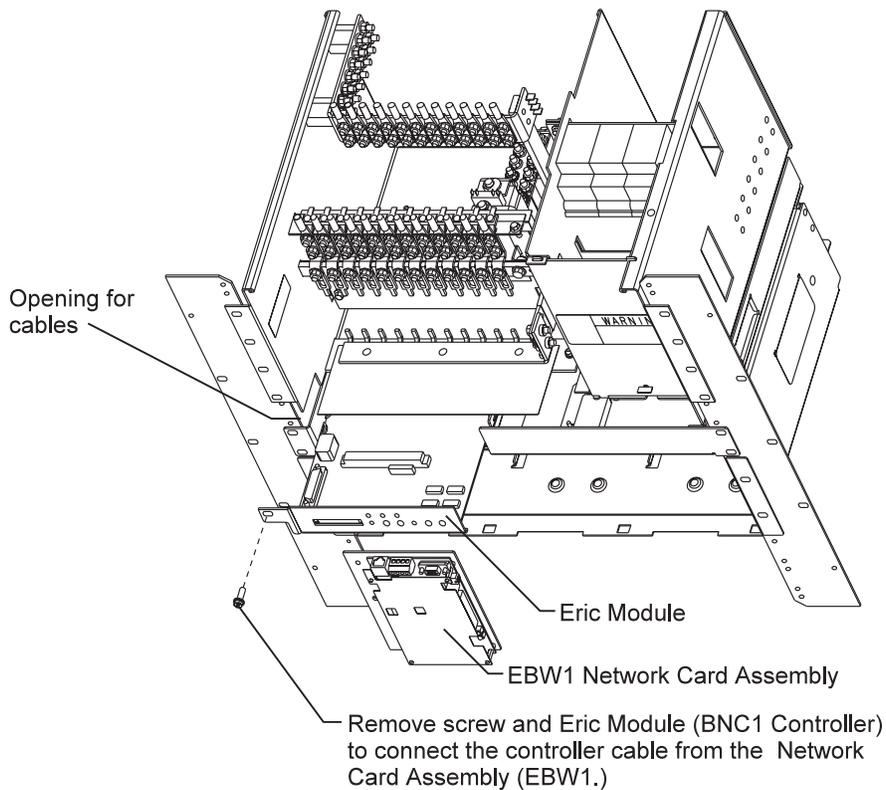

Figure 7-3: Removing the ERIC module
4. Refer to Figure 7-3. Locate a rectangular cutout (opening for cables) on the side of the frame just above the ERIC module. Cover the lower and rear (vertical) edges of this opening with the grommet material furnished in the kit. Slide the power cable and the controller cable through this opening.
1. See Figure 7-3. Remove the screw and ERIC module to allow connecting the controller cable from the EBW1 Network Card.